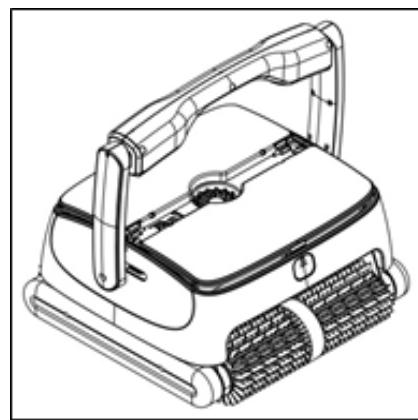

Figure 2
- b. The top cover will pop- up automatically (see Figure 2)